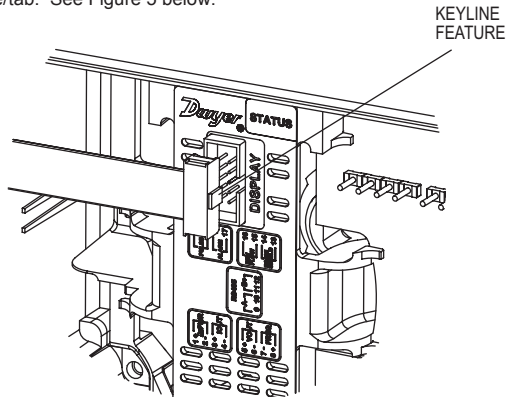

Figure 5
6. Insert one connector of the ribbon cable supplied in the setup kit into the connector labeled "Display" in the middle of the unit. Be sure to orient the keying feature/tab. See Figure 5 below: